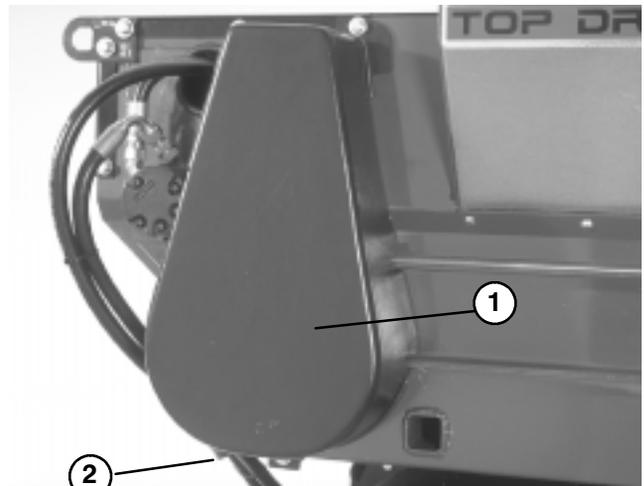

Figure 18
1. Remove chain cover, spacer and finger guard (Fig. 18).